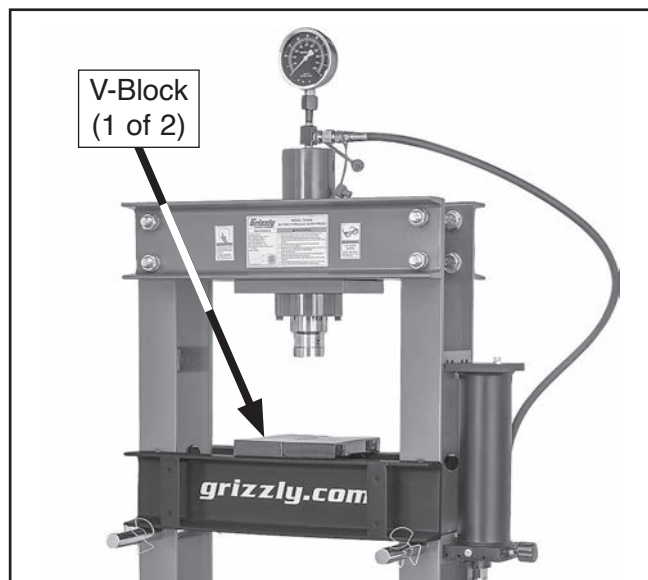

Figure 14. V-blocks placed on press bed.
18. Place V-blocks on press bed, as desired (see **Figure 14**).